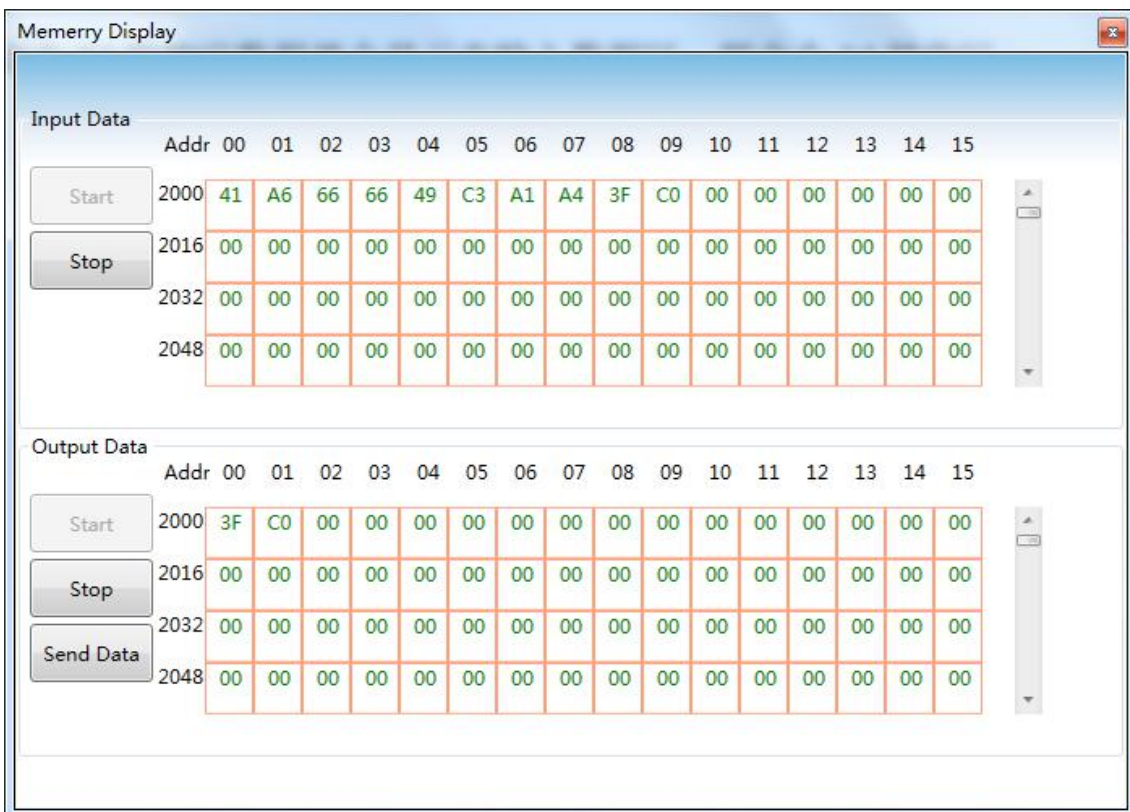

Figure 24 Memory Display
- (2) Use a serial line (or 485/422 convert serial line)to connect gateway’s RS232 interface and PC serial port, and then power the gateway on, at this time, the gateway is under debugging mode.
- (3) Start configuration software, after G1003 is powered on, click  to see memory display shown as Figure 24.
As Figure 24, input and output data shall display each memory’s current calue in tems of table. When the user is to modify output data, click “Stop”, modify the data, and click “Send Data”.